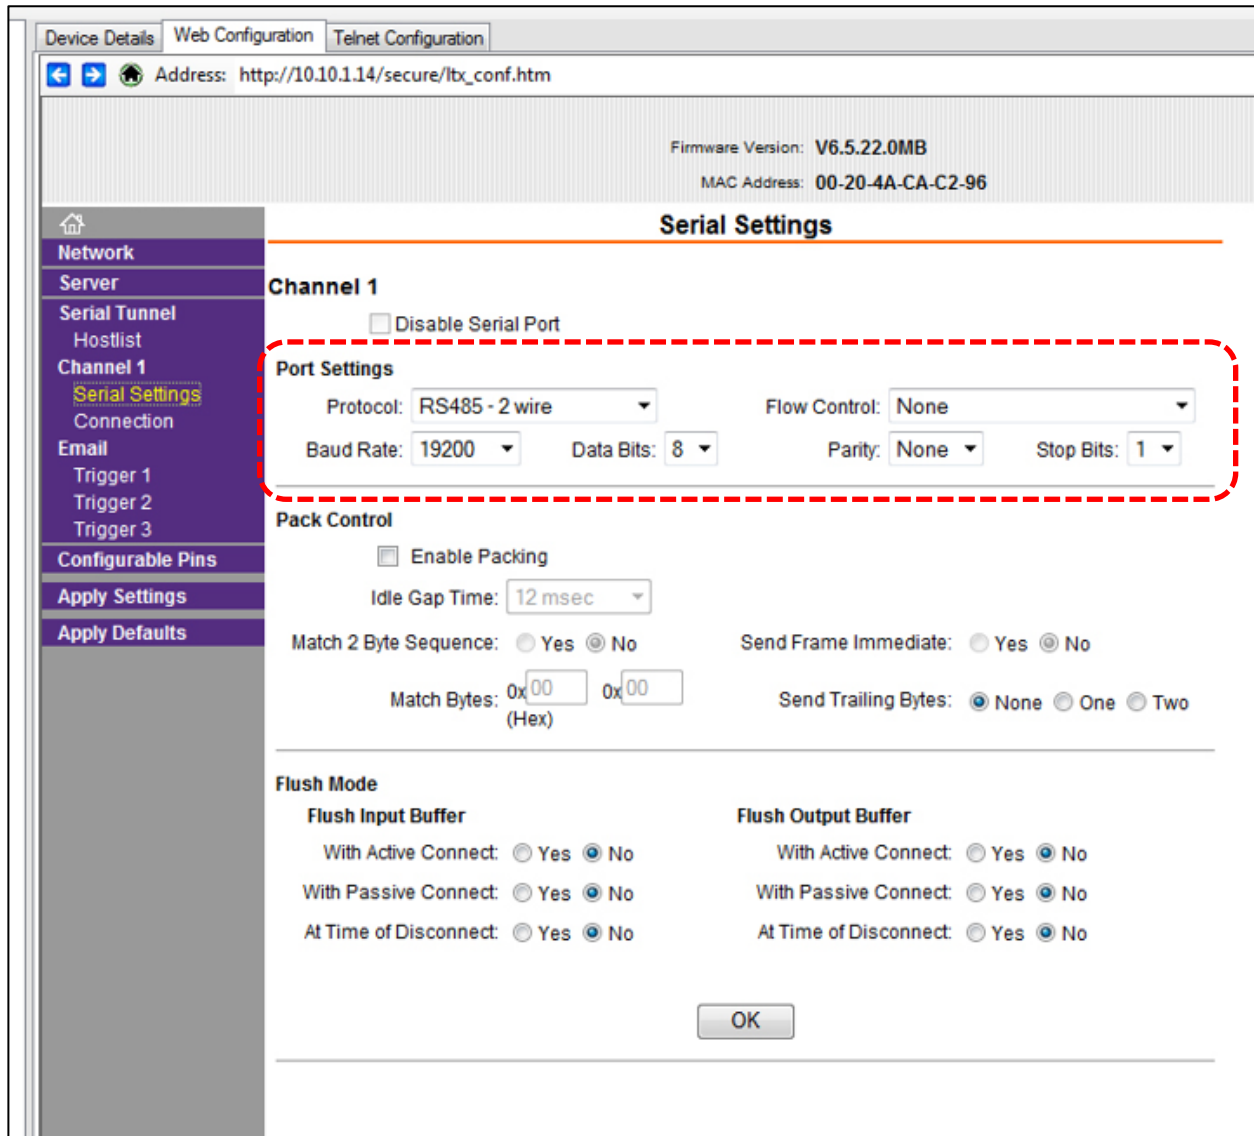

Figure 4-10 Serial Settings
- Press the OK button to save the settings. Serial Settings will display Done! See Figure 4-10.